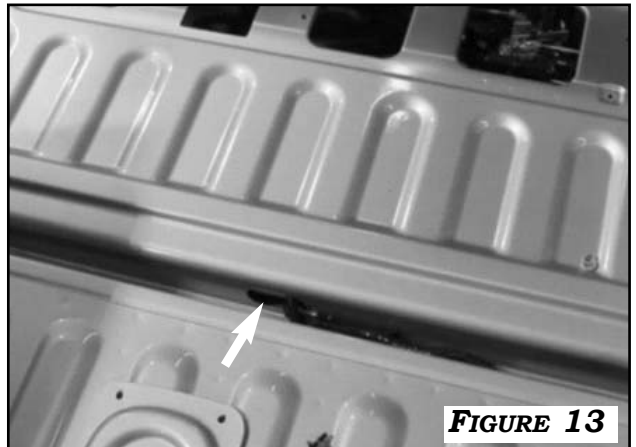

FIGURE 13
2. INSTALL CONVOLUTED TUBING AND ROUTE THE CAMERA EXTENSION HARNESS THROUGH THE BED ACCESS HOLE. PULL THE CONNECTOR THROUGH AND INSERT INTO HOLE AT THE CENTER OF THE TAILGATE. USE WIRE TIES TO SECURE HARNESS AT THE BOTTOM OF THE TAILGATE. **FIGURE 13**